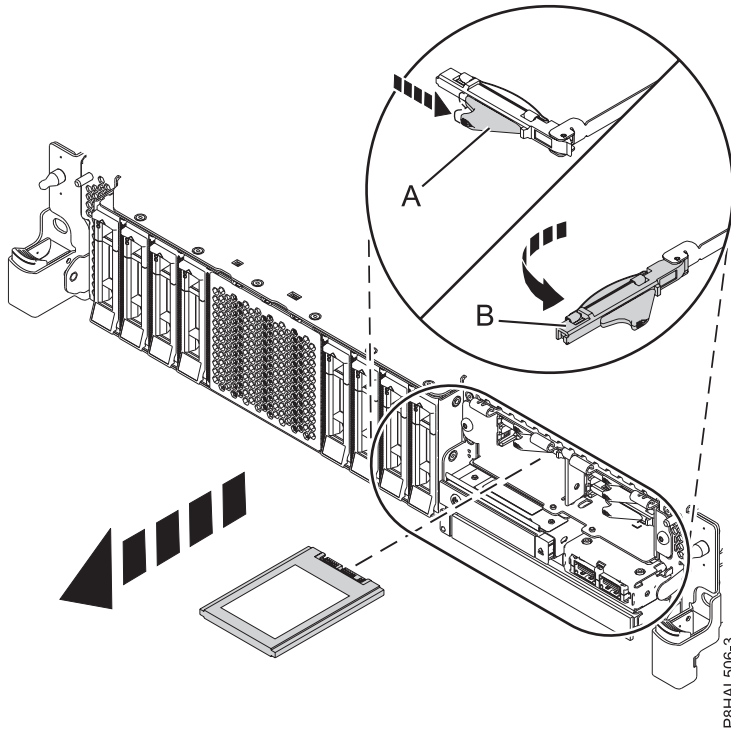

Figure 53. Removing an SSD from an expanded function system
12. When the identify LED turns on solid, unlock the drive bay handle **(B)** by pushing the handle latch **(A)** in the direction that is shown and pulling the drive bay handle **(B)** out toward you, as shown in Figure 53 on page 54. If the handle is not all the way out, the solid-state drive cannot slide out of the system.